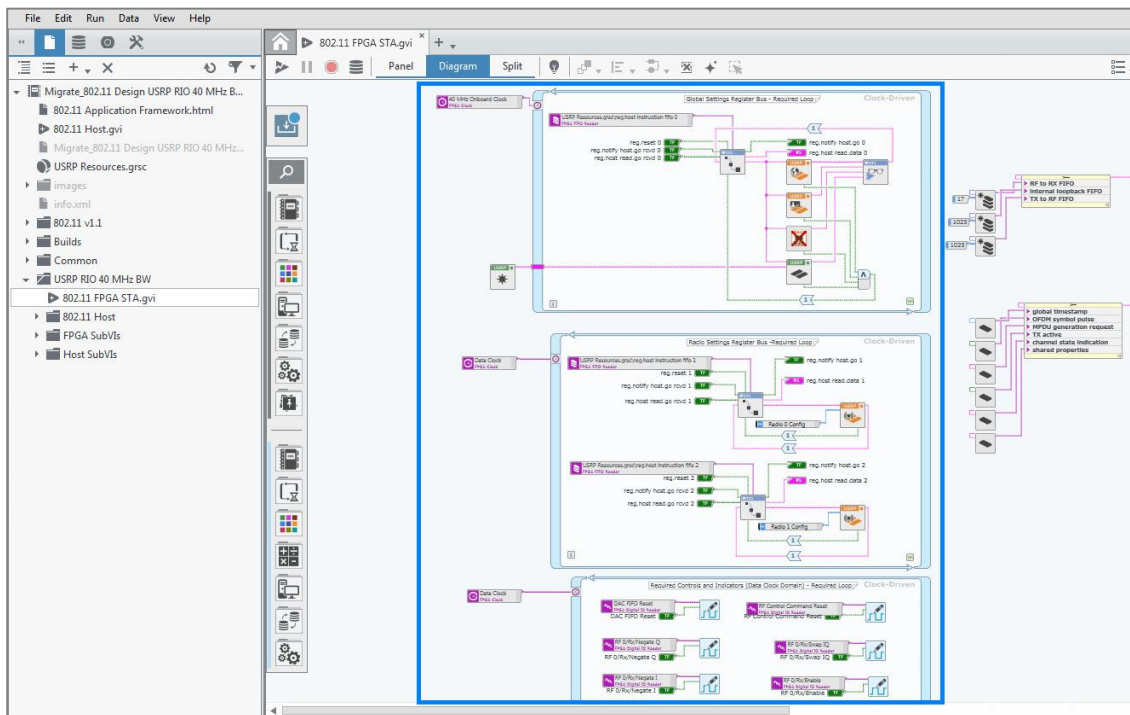

Figure 13 - Deleting the Clock-Driven Loops for interfacing with the USRP
5. Find the three Clock-Driven Loops used for interfacing with the USRP and remove those loops as shown in Figure 13.